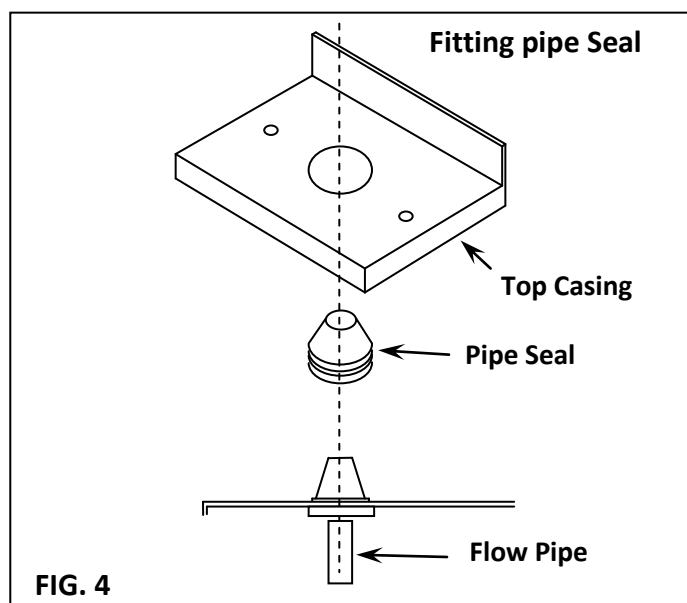

FIG. 4
8. Fit pipe sealing grommet into top casing panel and cut off end to allow pipe to slide through (See Fig. 4).